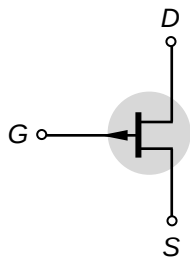

Fig. 3.20: Circuit symbol of a p -channel JFET.
- b) The circuit symbol of a p -channel JFET is shown in Fig. 3.20.